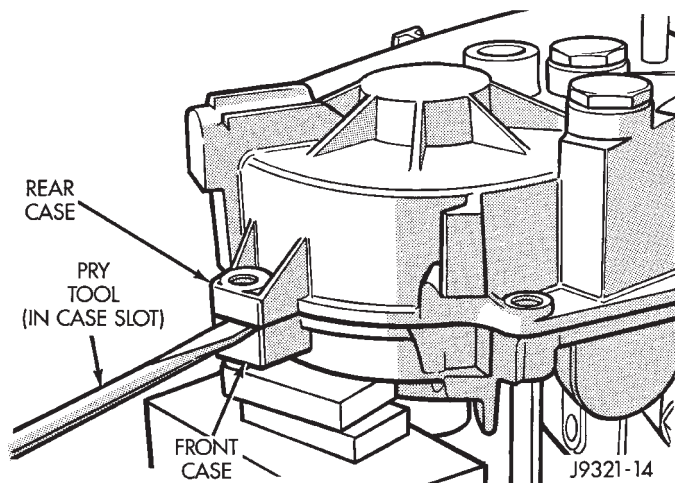

Fig. 33 Loosening Rear Case
(14) Loosen rear case with flat blade screwdriver to break sealer bead. Insert screwdriver blade only into notches provided at each end of case (Fig. 33).